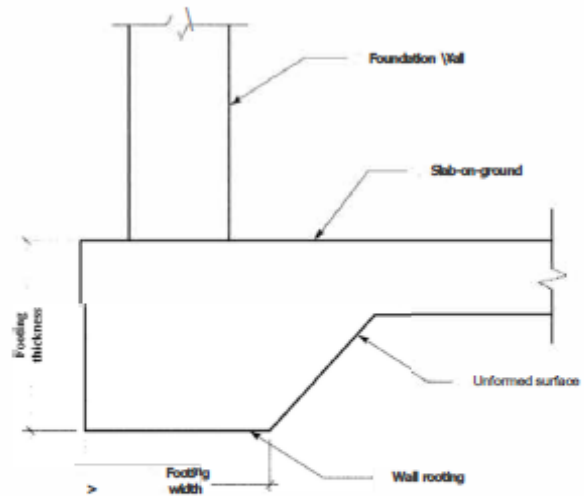

Fig. R7.4-Exterior unformed thickened slab footing.
\*Clean construction joint refers to the interface between footing and foundation wall with no debris and with no tooled surface characteristics; refer to Fig. R7.4.
•Clean construction joint refers to the interface between footing and foundation wall with no debris and with no tooled surface characteristics; refer to Fig. R7.4.